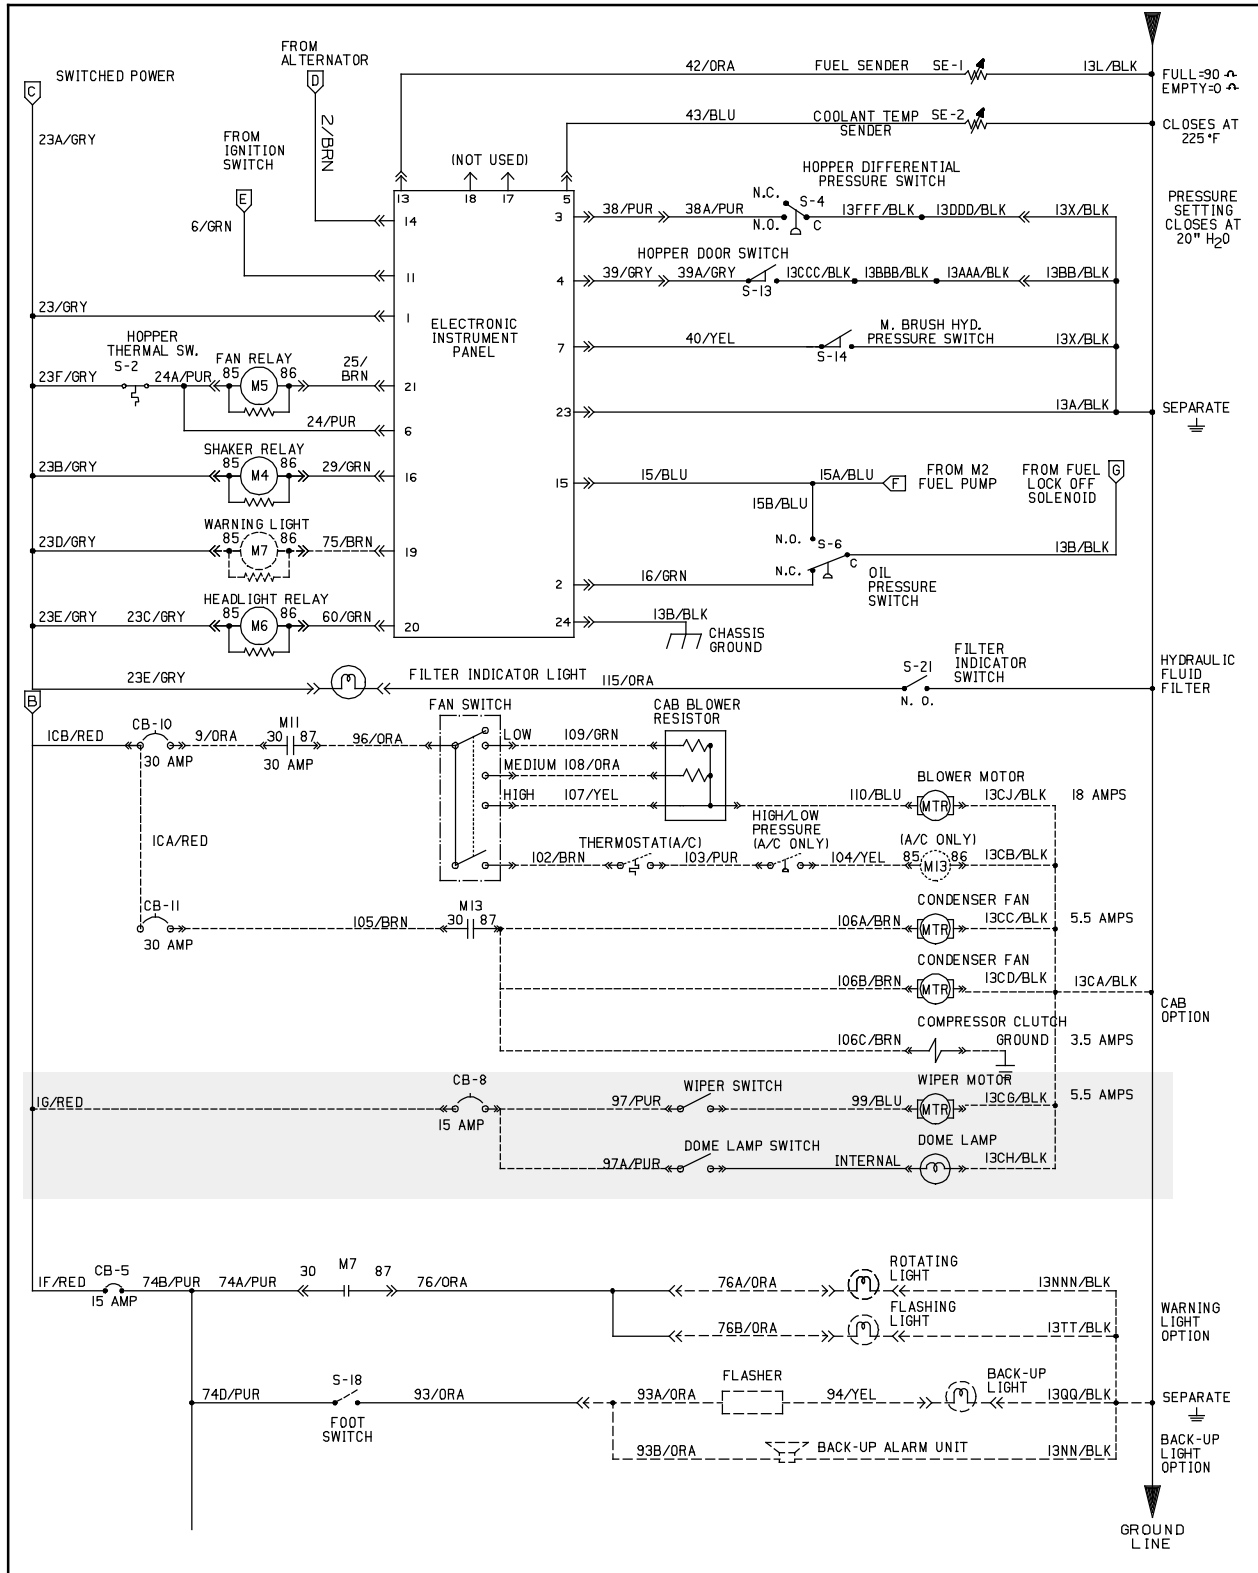
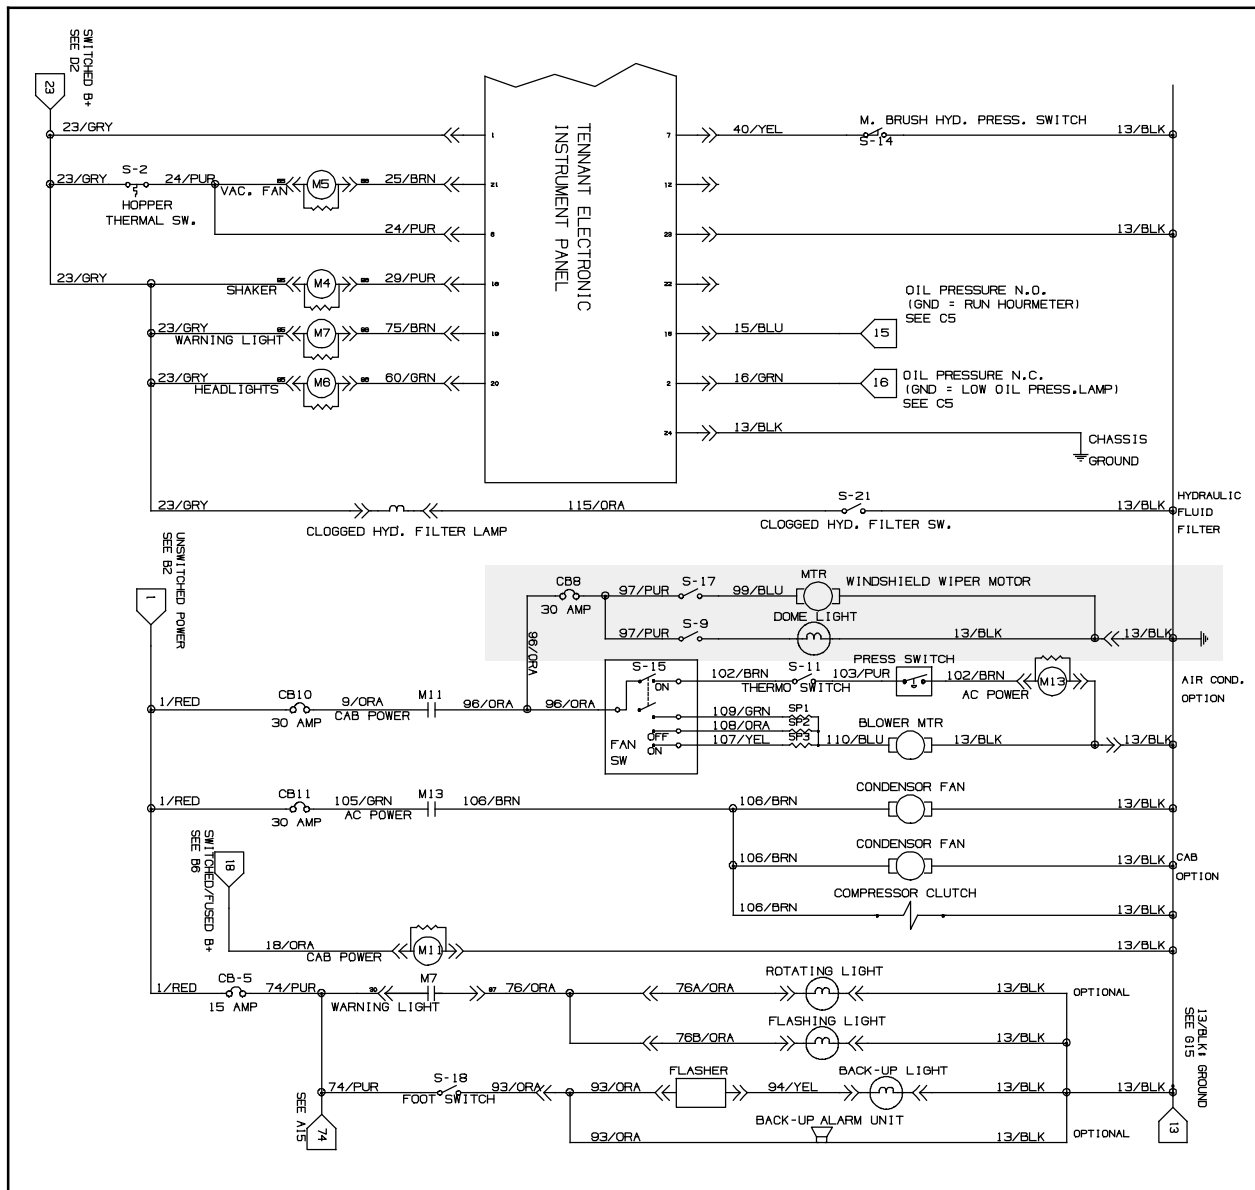

FIG. 6 - Diesel 4i Machines Only
FIG. 7 - Diesel 4f Machines Only
18. Connect the main wire harness to the circuit breaker (2). (Fig. 6 / Fig. 7 / Fig. 8)
20. Connect the main wire harness to the windshield wiper assembly and the dome light. (Fig. 6 / Fig. 7 / Fig. 8)